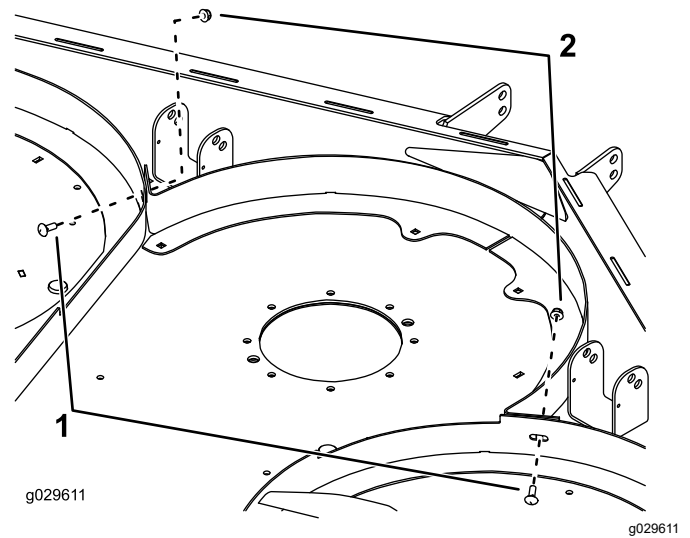

Figure 9
2. Loosely mount the left and right chambers to the center chamber with 2 carriage bolts (5/16 x 3/4 inch) and 2 nuts (5/16 inch) as shown in Figure 9.